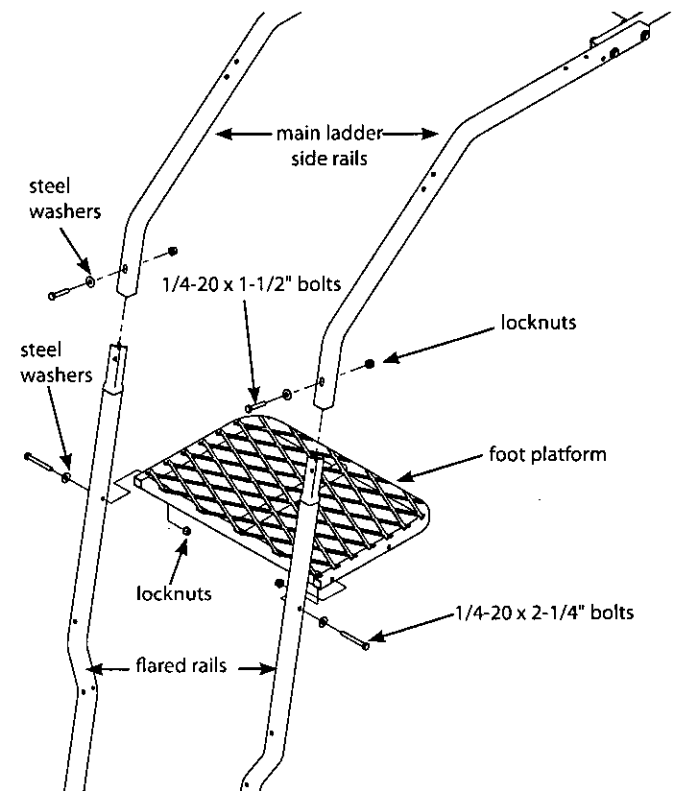

Figure 2
2. Insert the crimped end of two flared rails (10338) into the main side rails. Secure using (2) provided 1/4-20 x 1-1/2" bolts, locknuts and steel washers. **SEE FIGURE 2.** Pay special attention to orientation of flared rails.
3. Attach the foot platform (10340) to the inside of flared rails using (2) provided 1/4-20 x 2-1/4" bolts, locknuts and steel washers. **SEE FIGURE 2.**